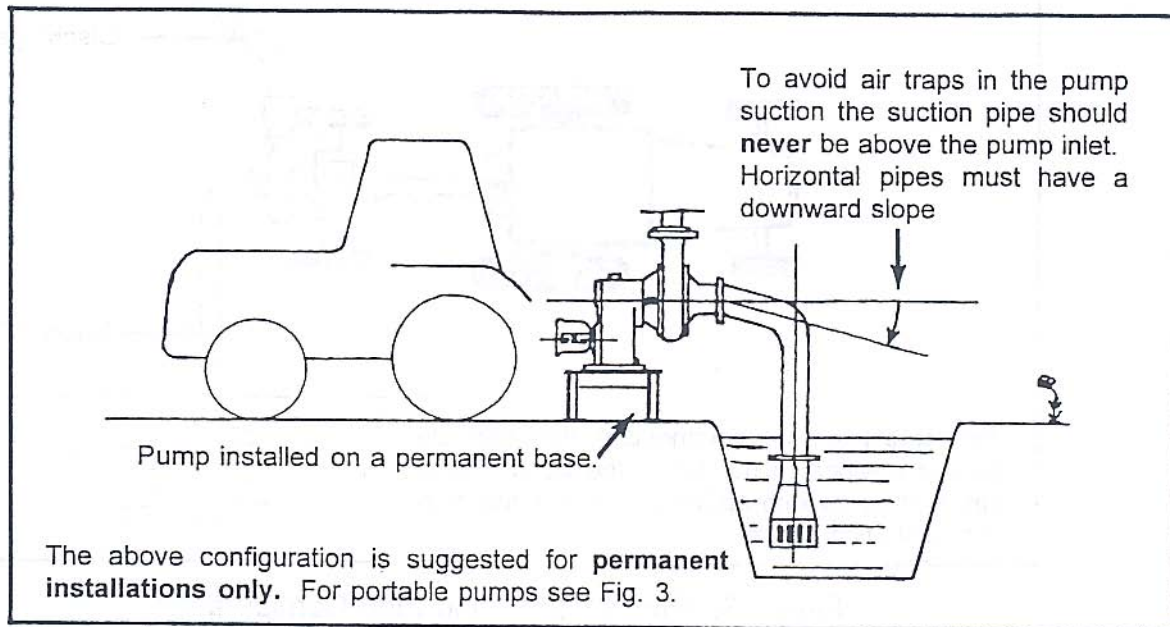

Figure 2. Suction Pipework
7. Assemble the suction pipe, keeping it as short as possible. Install it with a constant downward slope to the water source. Any rise will create a high spot that may entrap air causing loss of pump efficiency or prime. See Figure 2. It is also extremely important to ensure that all connections in the suction line are absolutely air tight.